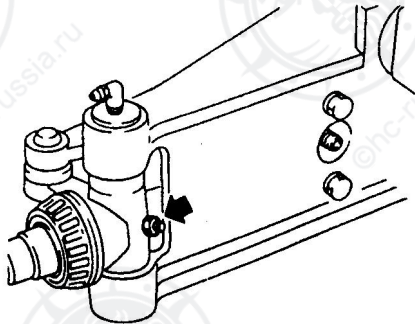

Fig. 6-2
- 2) Loose lock bolts.(see fig.6-2);